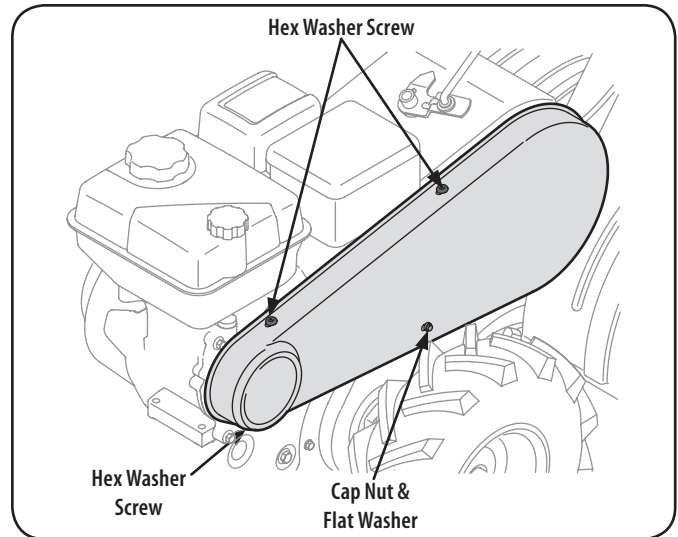

Figure 27
1. Remove the belt cover from the left side of the tiller by removing the two hex washer screws from the top of the belt cover. See Figure 27.
2. Remove the cap nut and flat washer from the front side of the belt cover. Remove the hex washer screw at the back of the cover. See Figure 27.